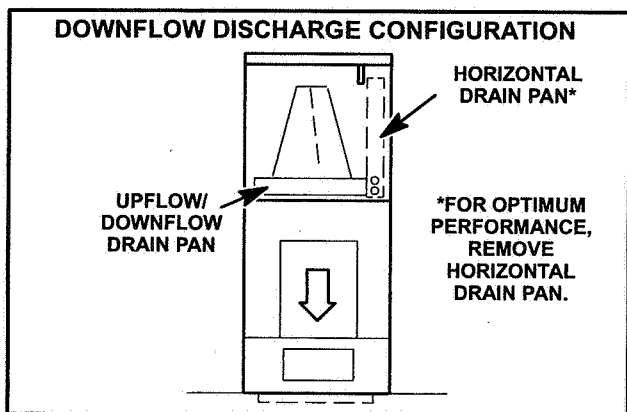

FIGURE 7
- 3 - For best efficiency and air flow, the horizontal drain pan should be removed from units in downflow configurations. See figure 7.
- 7 - Replace coil assembly and blower if removed. Replace coil access panel. If horizontal drain pan is not removed, depress tab in cabinet support rail to hold horizontal drain pan in place. See figure 7.